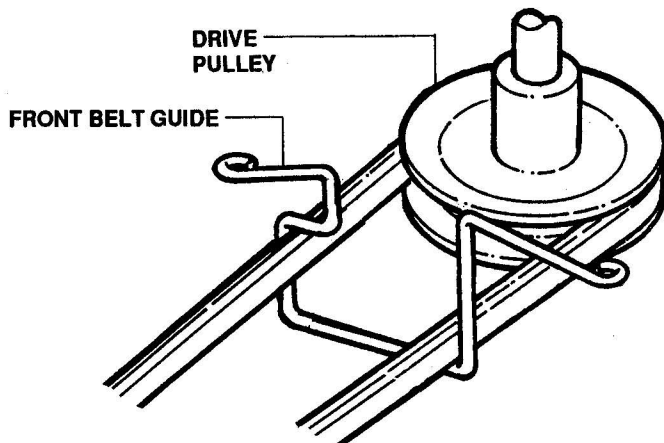

FIGURE 4.23
7. Move transmission shift lever to the #5 position and place belt over drive disc and into drive pulley belt groove. See Figure 4.23.